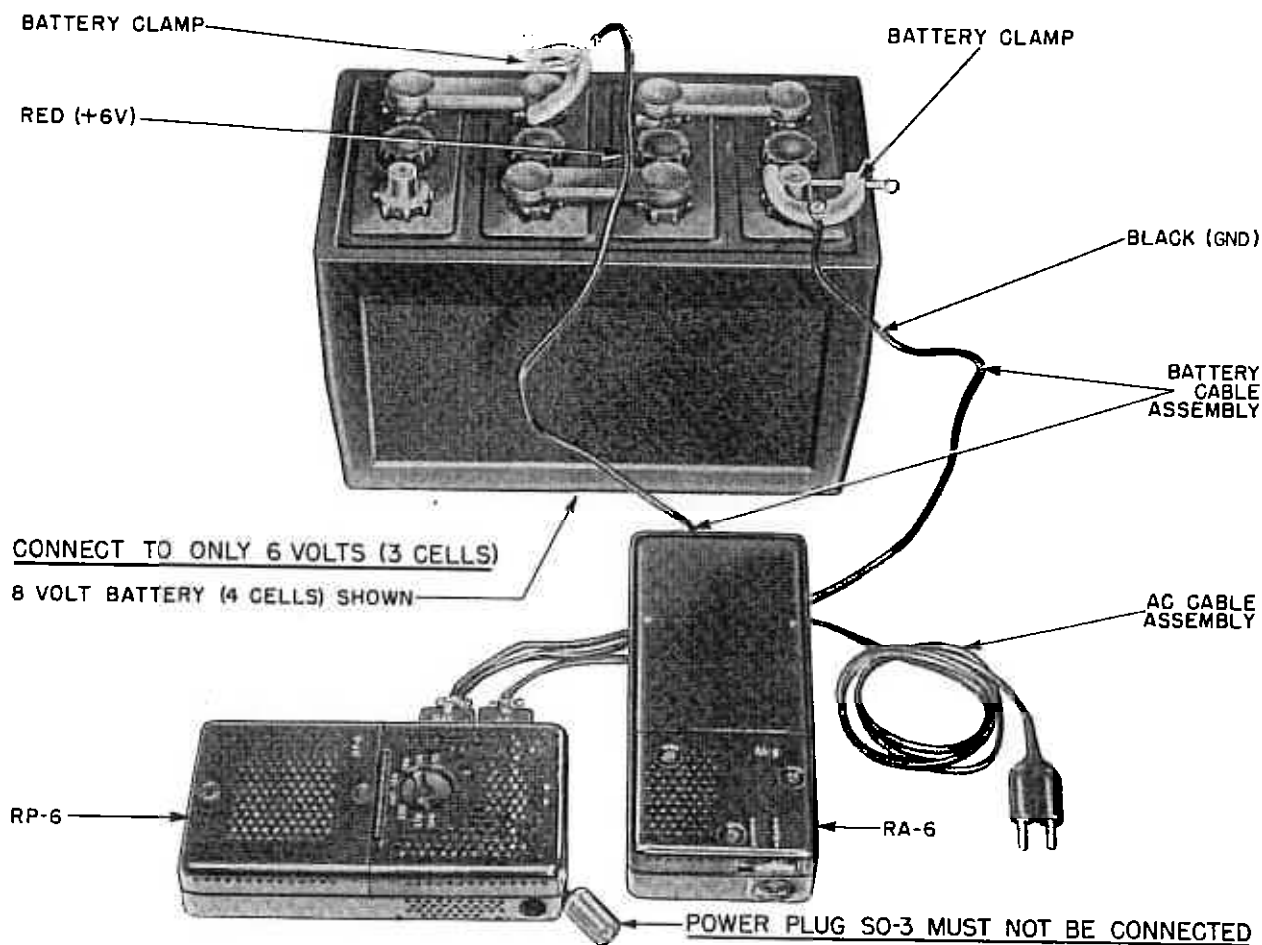

Figure 8. Radio Station RS-6 Battery Charging Hook-up.
(2) The battery should be charged only in a well ventilated room as dangerous gases are formed during the charging process.
c. Connect the equipment as follows: (See Figure 8).